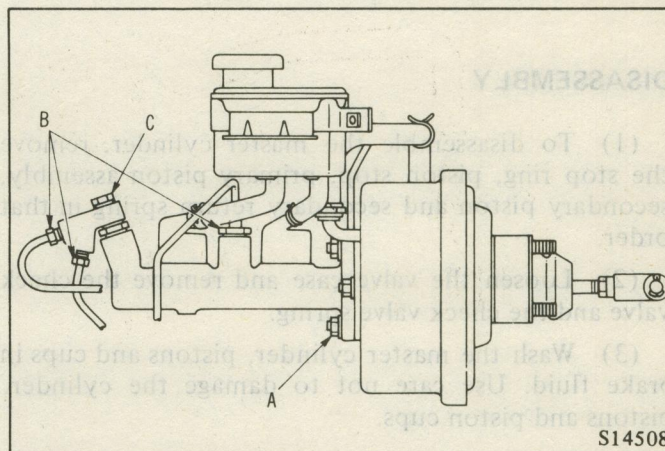

Fig. 8 Location of Tightening Torque
(2) Tighten the master cylinder and brake tube flare nuts to the specified torques. (See Fig. 8)
(3) After installing the master cylinder, adjust the pedal and bleed the hydraulic system.